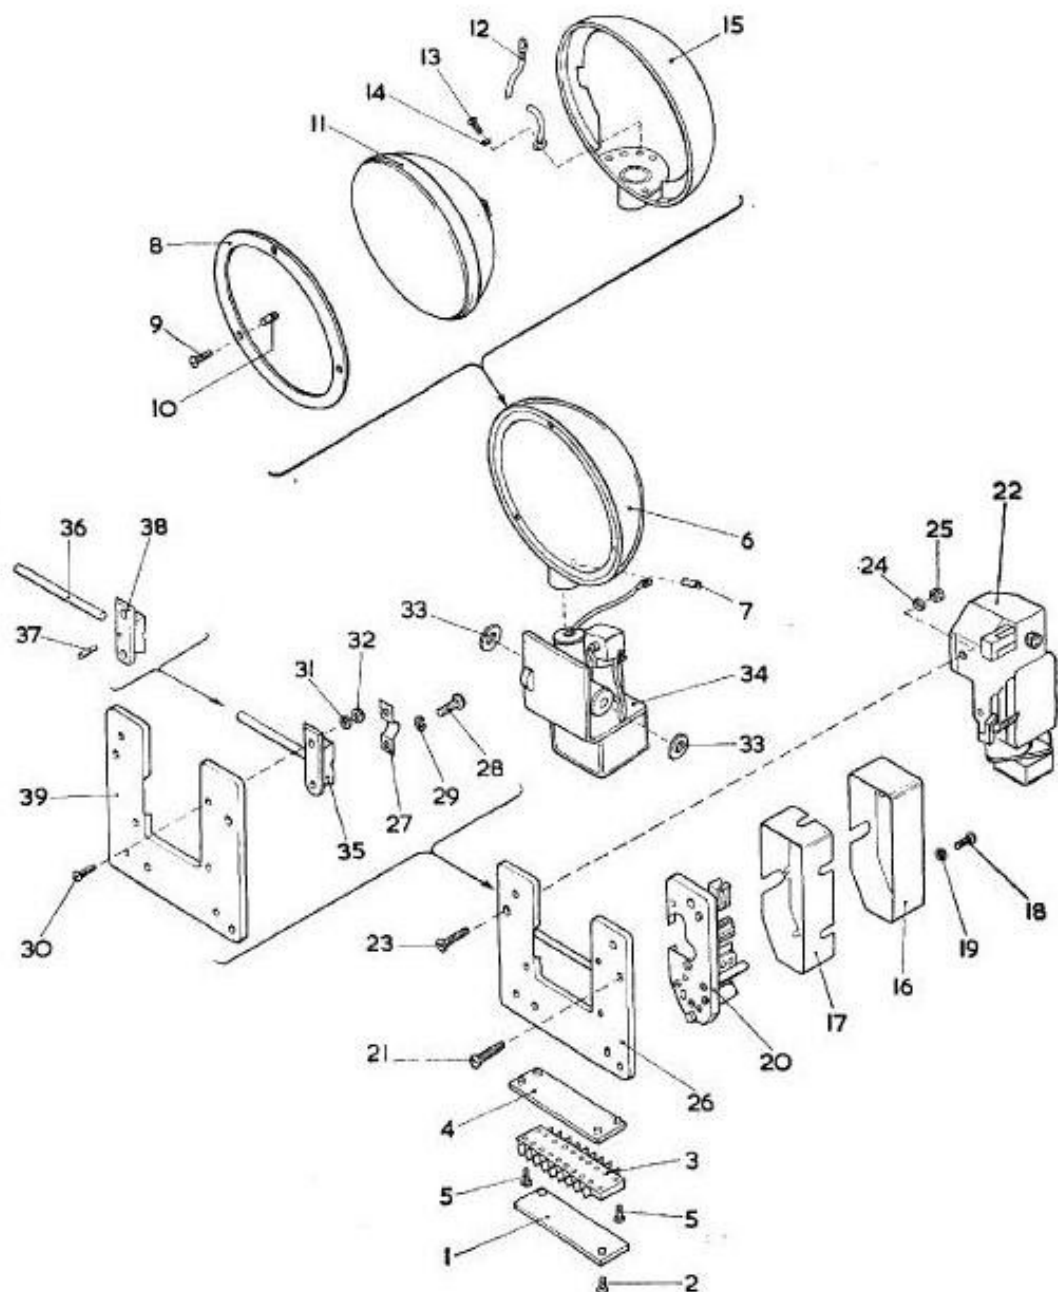

Fig. 7. Exploded view of lamp
17. Should components of any of the sub-assemblies require renewal, or detailed inspection of any component be necessary, the assemblies may be removed from the base plate for ease of servicing. The key numbers given for the exploded view, fig. 7 may be used as a guide to the order of removal of the assemblies; but individual assemblies may be removed if desired. It should be noted that when the elevation gearbox and motor assembly (item 22) is removed the sealed beam housing assembly should be supported on the bench, as removal of the gearbox will leave one end of the journal shaft unsupported.
KEY TO FIG. 7**Exploded view of lamp**